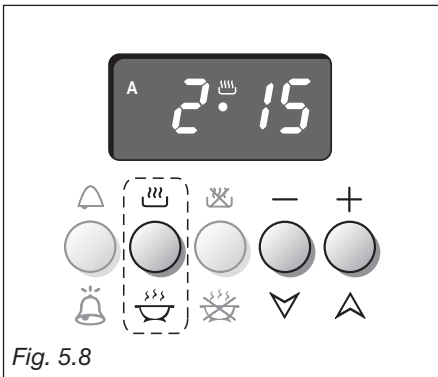

Fig. 5.8
1. Set the cooking time by pressing button () and then () to move forward or () to move back if you have gone beyond the required time (fig. 5.8).